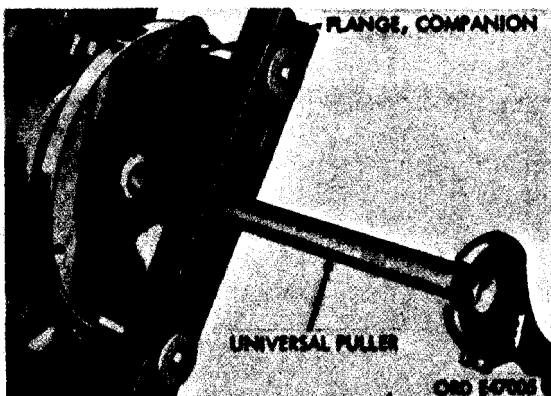

Figure 249. Removing companion flange
(2) Main shaft assembly,
- (a) Remove cotter pin and slotted nut. Use a universal puller to remove companion flange (fig. 249) from main shaft.